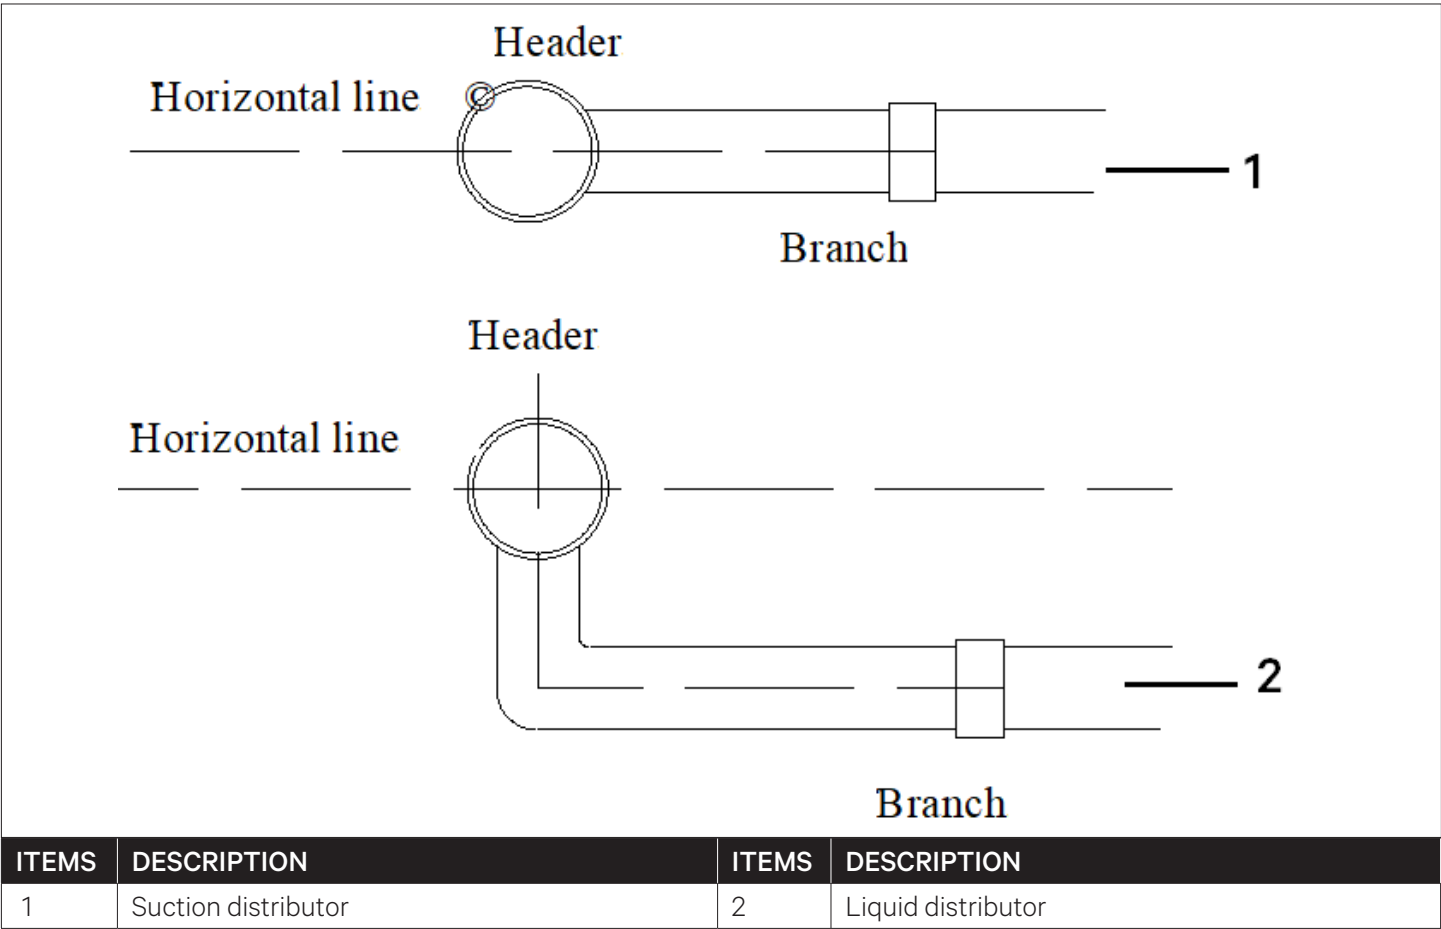

Figure 2-18 Horizontal Placement of Branch Manifold
- 5. When installing the branch manifold, ensure that the branch piping are in horizontal, as shown in Figure 2-18;